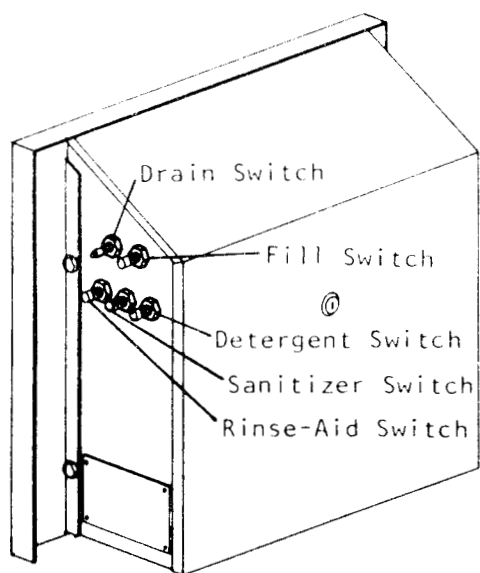

Figure 2.1.2
1. Check voltage rating on name plate (4) and confirm that electrical supply is correct.
3. Prime chemical pumps (See Figure 2.1.2).